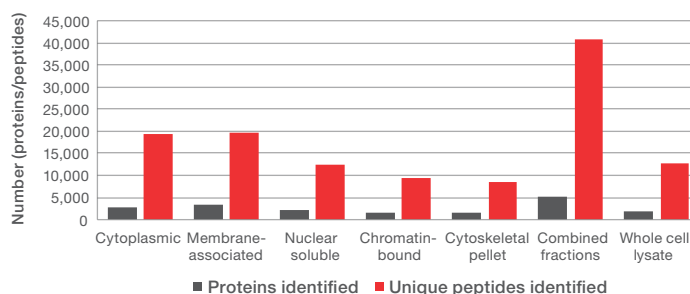

Figure 10. Number of identified proteins (gray bars) and peptides (red bars) from in-gel digests of subcellular protein fractions and whole cell lysate.
In order to identify additional proteins that fractionate with known marker proteins, subcellular protein fractions were analyzed separately using label-free mass spectrometry (MS) and also labeled with Thermo Scientific™ Tandem Mass Tag™ 6-plex (TMTsixplex™) reagents for MS/MS quantitation. The results from label-free quantitation (Figure 8) and TMTsixplex reagents (Figure 9) correlated well with western blot analysis. Overall, more than 40,000 unique peptides corresponding to 5,337 protein groups were identified from the combined subcellular protein fractions which were approximately 2.5-fold greater than unfractionated whole cell lysate (Figure 10).